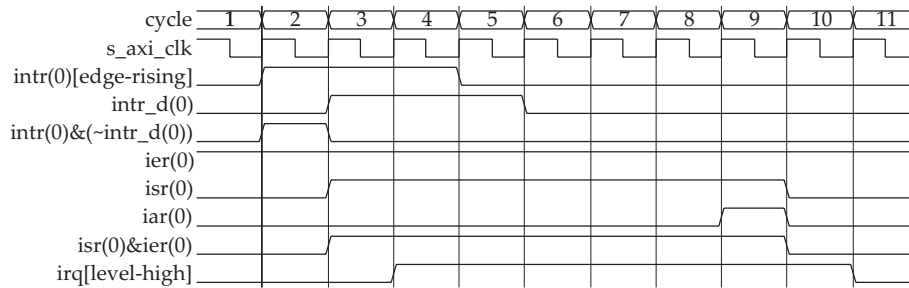

Figure 21: Input Intr - Edge Sensitive (Rising) and Output Irq - Level Sensitive (Active High)
- Configured Input Interrupt (Intr) for Edge sensitive (rising) and Output Interrupt Request (Irq) to Level sensitive (active High) and is shown in Figure 21.